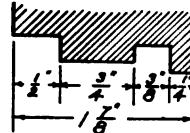
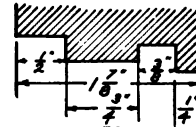
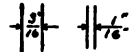

Fig. 33.
Fig. 34.
Fig. 35.
(3) Whenever possible place the detail dimensions in a line, with the overall dimensions at the outside. (Fig. 33). Do not cross the detail dimensions as in Fig. 34. What other
mistakes do you find in Fig. 34? Do the dimensions add up right? This is very important. Very narrow spaces are shown thus: (Fig. 35).